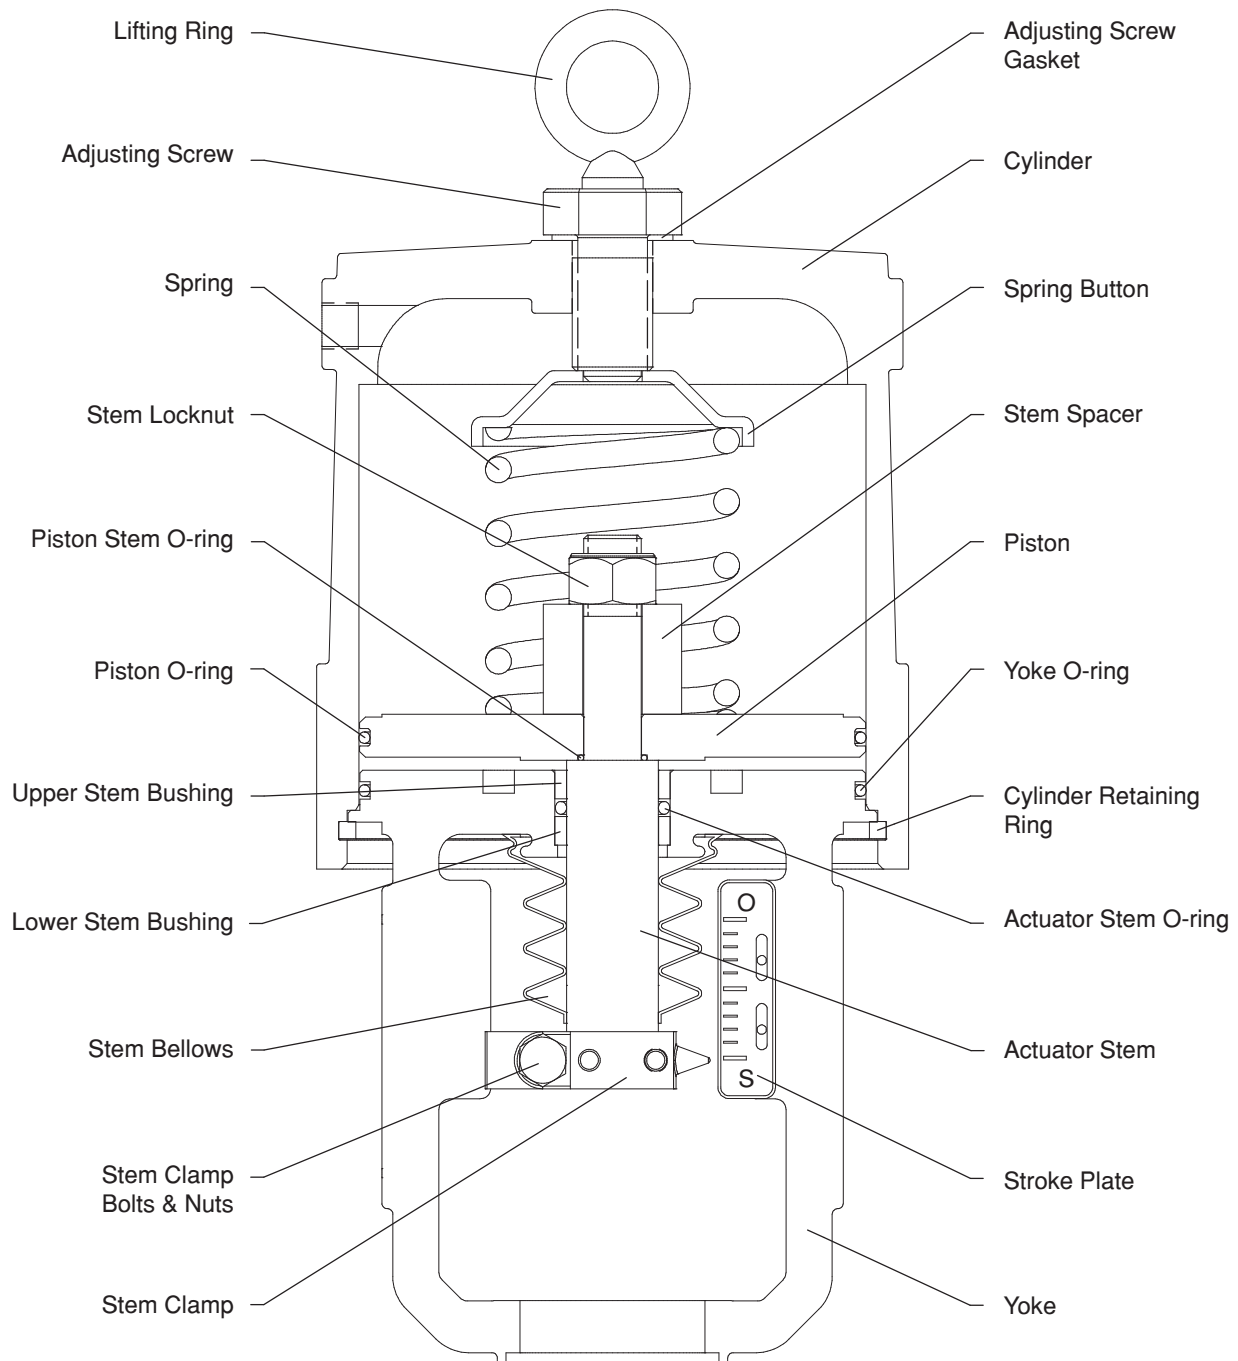

Figure 1 - Spring-Cylinder Actuator (Air-to-Retract)
In case any internal problem is suspected with the actuator requiring its disassembly, refer to Figures 1, 2 and 3 and proceed as follows:
- In the “air-to-retract” configuration, remove the spring(s) and the spring button for cleaning and inspection (see Figures 1 and 2). Remove the locknut and slide the piston and the stem spacer out from the actuator stem. On actuators with dual springs the spring guide must be removed also.
To reassemble the actuator refer to the Figures 1, 2 e 3 and proceed as follows:
- Reassemble the piston, the piston stem O-ring and the stem spacer in the actuator stem, according to the desired air action (see figures 1, 2 and 3). Replace the piston O-ring. The air-to-extend configuration requires that the spring button be fixed by the actuator stem locknut. Tighten the nut firmly.